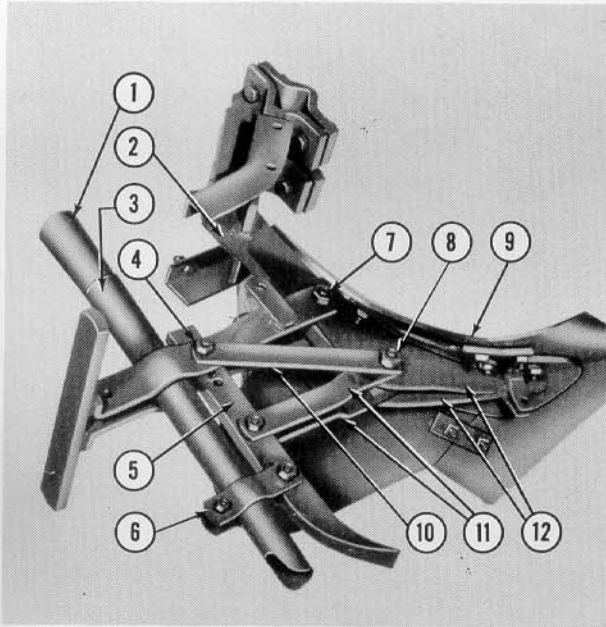

Figure 4
- a. Remove the bolt (8), Figure 4, from the beam (2) and insert the beam between the frog (12) as shown.
- b. Align the lower hole in the beam with the lower hole in the frog and position the forward end of supports (10) and (11) as shown in Figure 4. Secure with bolt, lock washer and nut (8) provided.
- c. Loosen the bolt (7), Figure 4, and position the bottom (9) so the slotted hole on the frog (12) fits securely on the bolt between the covering frame side bars.
- d. Remove the bolt (4) from the covering frame side bars and position the subsoiler (5) as shown in Figure 4.
- e. Attach the subsoiler (5) to the covering frame side bars at the desired working depth with bolt (4), Figure 4. Place the free end of the long support (10) on bolt (4) and tighten nut finger tight.
- f. Attach the free end of the short supports (11), Figure 4, to each side of the subsoiler shank (5), and secure with lock washer and nut.
- g. Insert the long seed tube (3) between the covering frame side bars as shown in Figure 4 and secure the lower end with tube clamp (6).
- h. Tighten nut (4) securely and place the small end of short seed tube (1) inside
the large end of the long tube as shown in Figure 4.